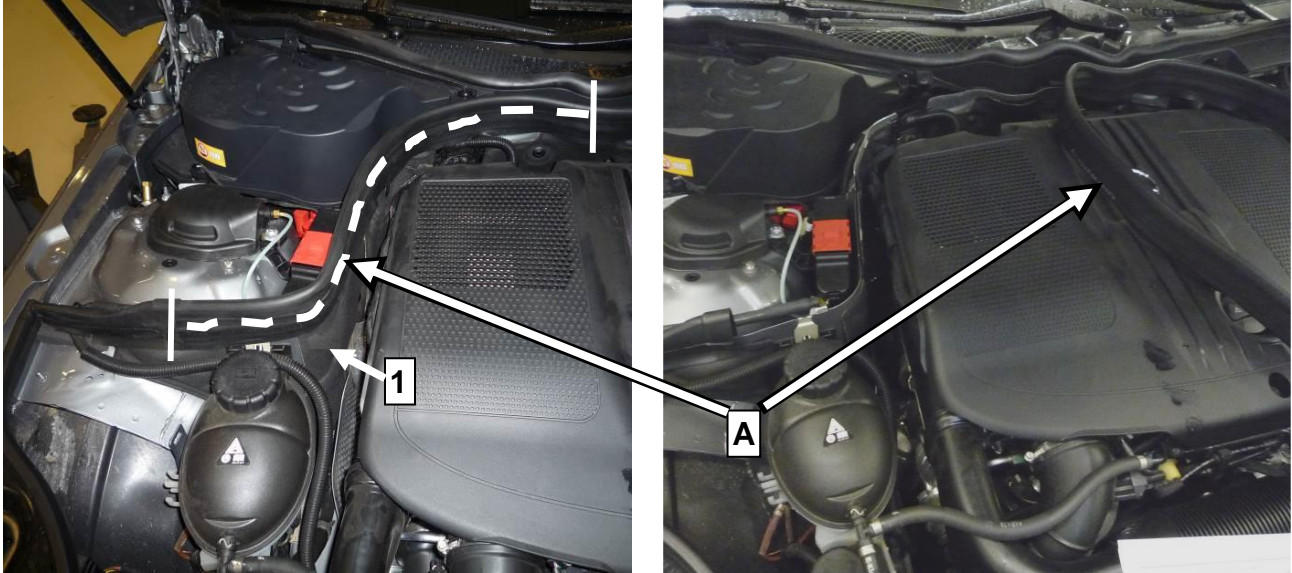

Figure 1
1.  Open hood then loosen approx. 0.5 m of edge guard (A, Figure 1) from the right side of secondary engine bulkhead (1) and place to one side.
3.  Reinstall edge guard (A, Figure 1) onto upper edge of bulkhead (1).